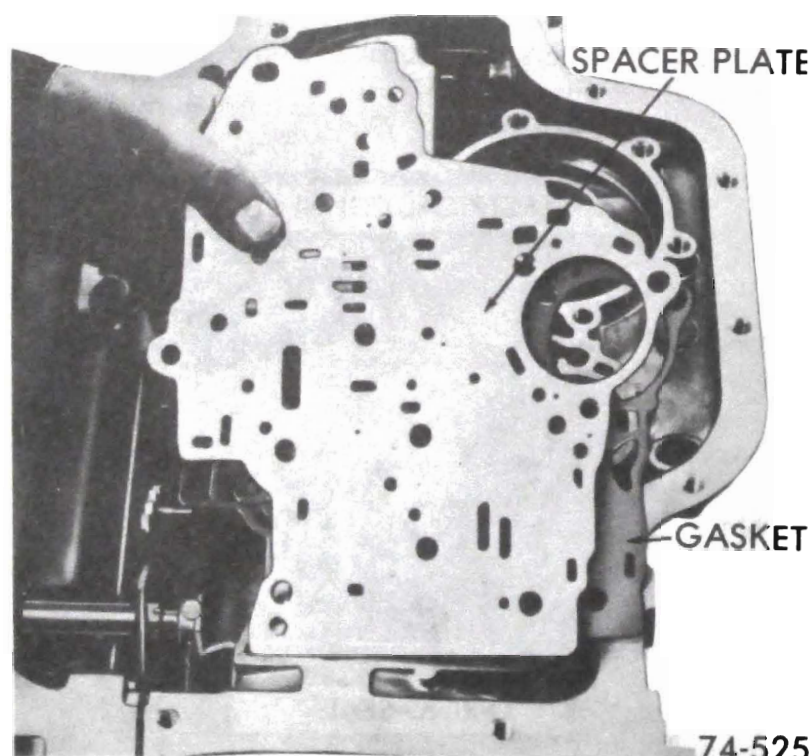

Figure 76-70
7. Remove valve body assembly spacer plate and gasket. See Figure 76-70.